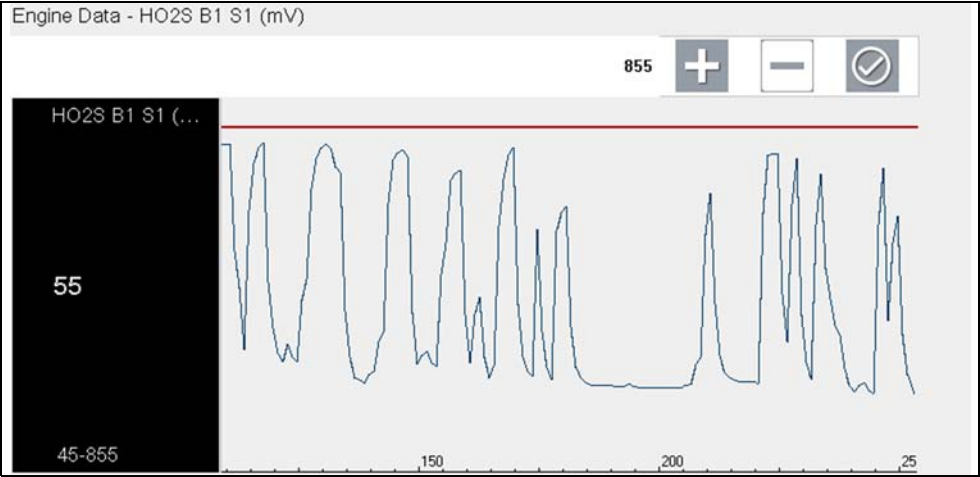

Figure 5-38 Trigger setup - upper limit
A graph of the highlighted PID and setup icons display (Figure 5-38).
The upper trigger point must be set first. A red horizontal line is displayed across the data graph (Figure 5-38) representing the upper trigger point.
- 4. Use the plus (+) and minus (−) icons (Figure 5-38), or the up ▲ and down ▼ arrow buttons to change the position of the upper trigger point.